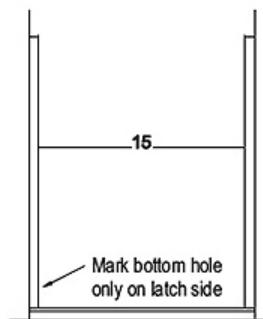

FIGURE 5
6. Hold wall channels (15) in a plumb position and mark hole locations on the hinge side and bottom hole only on the latch side (See Figure 5). Drill holes in wall (using 3/16" carbide drill for tile walls). Insert wall anchors (16) into drilled holes.